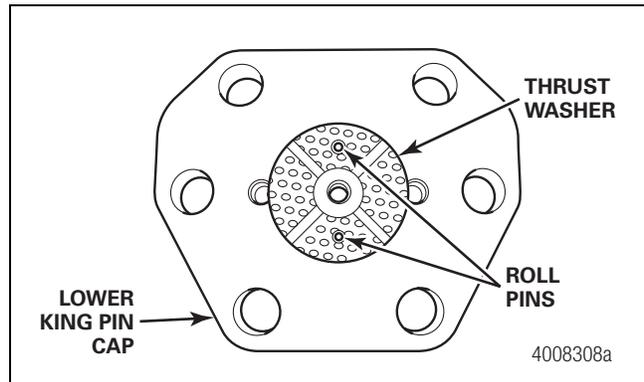

Figure 8.10
6. If removed, install new roll pins. The roll pins must not stand out above the shim pack and thrust washer. Figure 8.10.